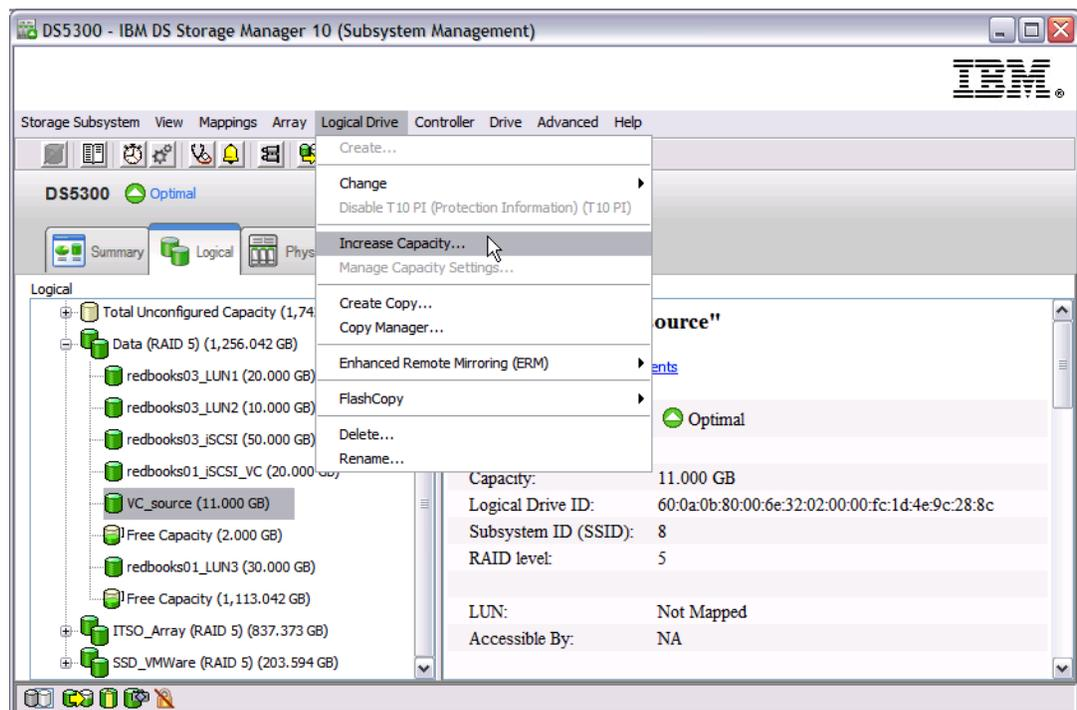

Figure 3-20 Increasing logical drive capacity
1. Highlight the logical drive to be expanded, right-click it, and select **Logical Drive** → **Increase Capacity...** as shown in Figure 3-20.